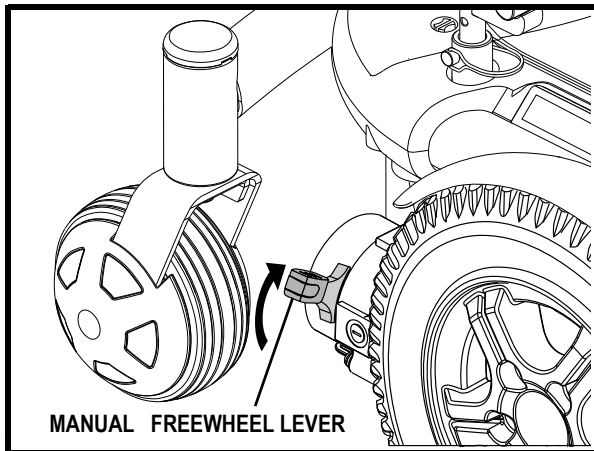

Figure 8a. Drive Mode (Drive Engaged)
Your power chair has a manual freewheel lever on each motor. Manual freewheel levers enable you to disengage the drive motors and maneuver the chair manually. There are two different types of manual freewheel levers that your power chair may be equipped with based on the drive motor configuration. See figures 8a, 8b, 9a, and 9b.
2. Pull up both manual freewheel levers to engage the motors (drive mode). See figures 8a and 9a.